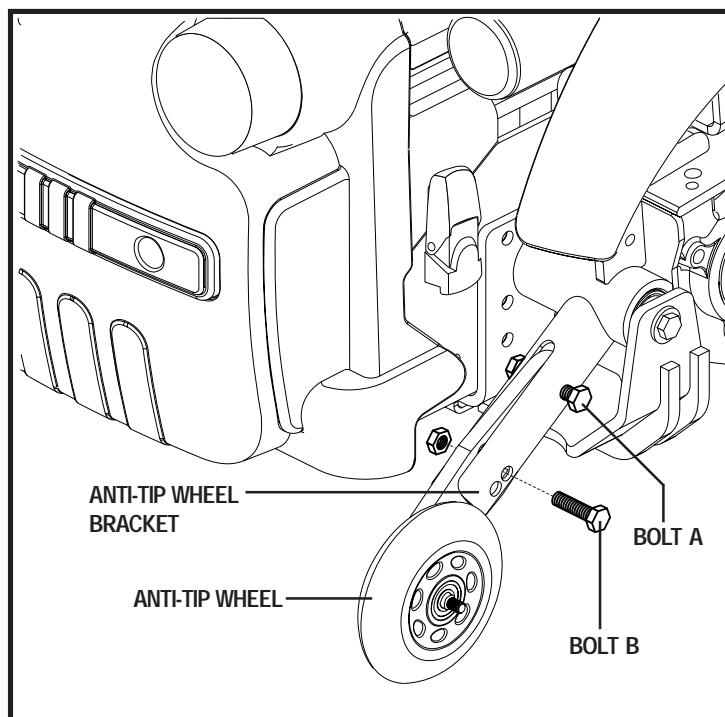

Figure 12. Anti-Tip Wheel Assembly
1. Loosen bolt A. See figure 12.
3. Raise or lower the anti-tip wheel by 1.25 cm (0.5 in.) or 2.54 cm (1 in.) increments by aligning the appropriate adjustment holes. See figure 12.